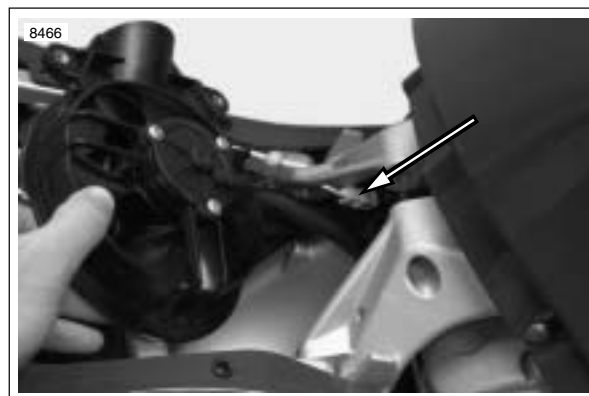

Figure 4-85. Cooling Fan Connector [97]
6. See Figure 4-85. Disconnect cooling fan connector [97].
1. See Figure 4-85. Connect cooling fan connector [97].